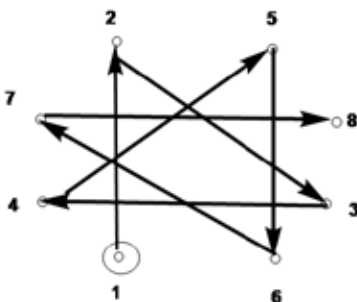

Figure 45: Tightening pattern
- a. Tighten the nuts evenly following the directional arrows shown in figure 45.
4. Undo the union nut at the gas valve outlet (see Figures 45 and 46). Carefully remove the orifice and O-ring, and keep them in a safe place for re-installation later. Ensure you protect the gas valve outlet from dust and debris.